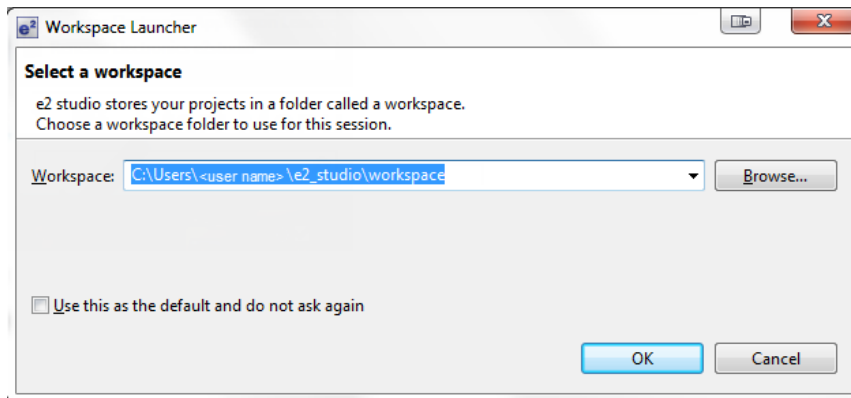

Figure 2.1 Workspace Launcher dialog
- A. At the end of e2 studio startup, you see the Workspace Launcher Dialog box shown in Figure 2.1.